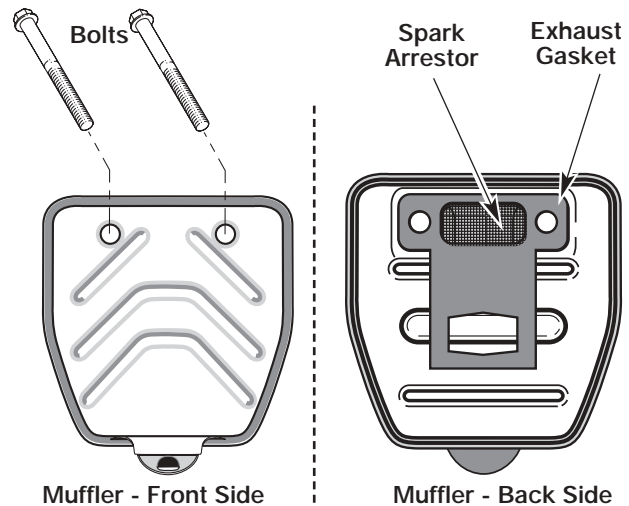

Figure 26
2. Locate muffler front and the two (2) bolts securing it to the engine. See Figure 26. Remove the two (2) bolts using a flatblade screwdriver or 5/16-inch socket or nut driver. Pull muffler off of the engine.
3. Turn muffler over to the back side and locate the exhaust gasket. Remove the muffler gasket from the muffler. See Figure 26.
7. Place the exhaust gasket against muffler's back side. Align the gasket bolt holes with the bolt holes in the muffler. While holding exhaust gasket in place, insert the bolts into the muffler's front side. See Figure 26.